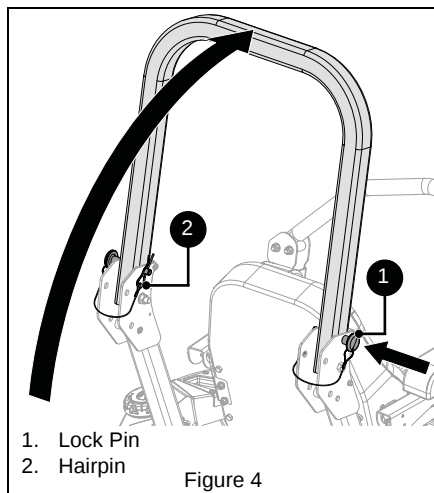

Figure 4
6. Rotate ROPS to operating position and secure with lock pins. Secure lock pins with hairpins. See Figure 4.